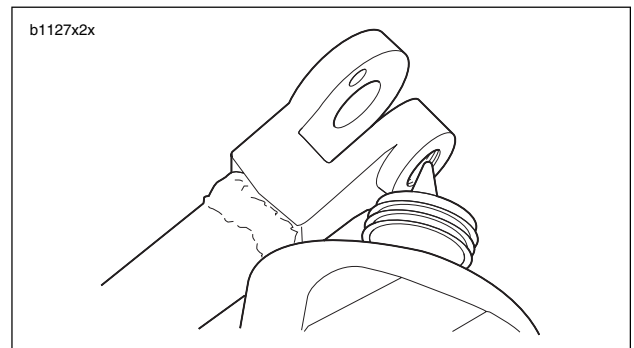

Figure 2-123. Threaded Area for Loctite Application
- b. See Figure 2-123. Apply LOCTITE 272 (red) to threaded area (clevis) of sidestand leg.